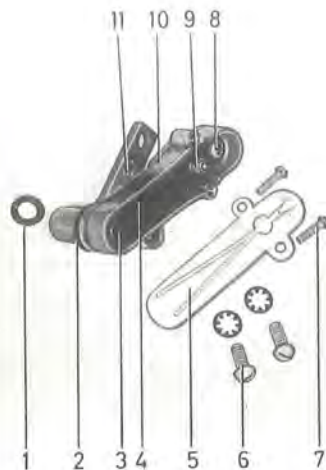

Fig. 2-77. Temperature compensator
The temperature compensator is replaced complete. It is removed from the carburettor by unscrewing the screws (6, Fig. 2-77). Take out the old seal (1) from the carburettor and fit a new one. Place a new seal (2) on the temperature compensator and fit the compensator. The temperature compensator is marked "60" (see 11, Fig. 2-77).